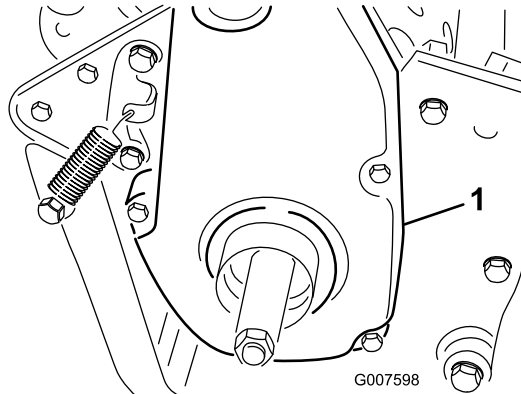

Figure 26
1. Remove the belt cover mounting fasteners and the belt cover to expose the belt (Figure 26).